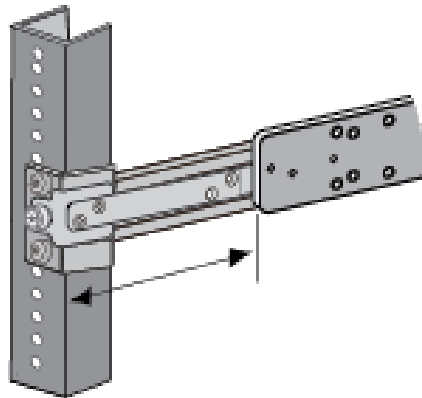

Figure 112. Verifying the Length of the Extension Bracket
5. Measure the distance from the front of the equipment rack to the front of the inner rail. Refer to Figure 112. This should approximately match the value you measured in “Measuring the Extension Bracket Lengths” on page 176.